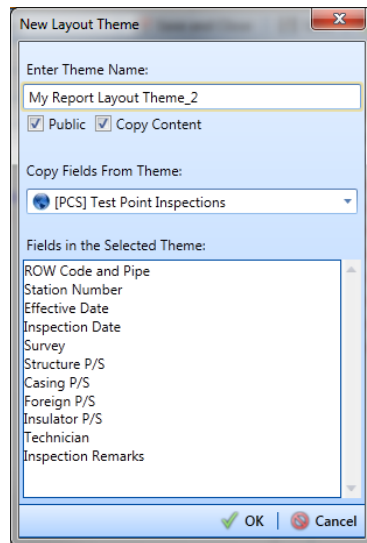

Figure 14-31. New Layout Theme
- 4 Click  **Add** to open the *New Layout Theme* dialog box (Figure 14-31).